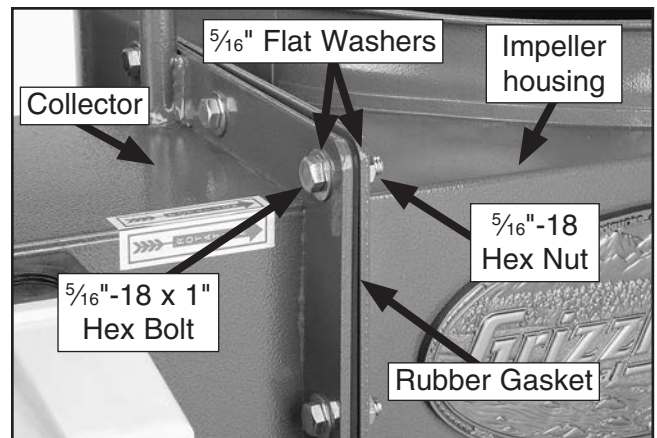

Figure 11. Collector mounted to impeller housing.
4. Attach the four casters to the legs by threading them into the bottom of the legs, as shown in **Figure 11**.
6. Use (8) $\frac{5}{16}$ "-18 x 1" hex bolts, (16) $\frac{5}{16}$ " flat washers, and (8) $\frac{5}{16}$ "-18 hex nuts to attach each collector to the impeller housing with a rubber gasket between the components, as shown in **Figure 11**.